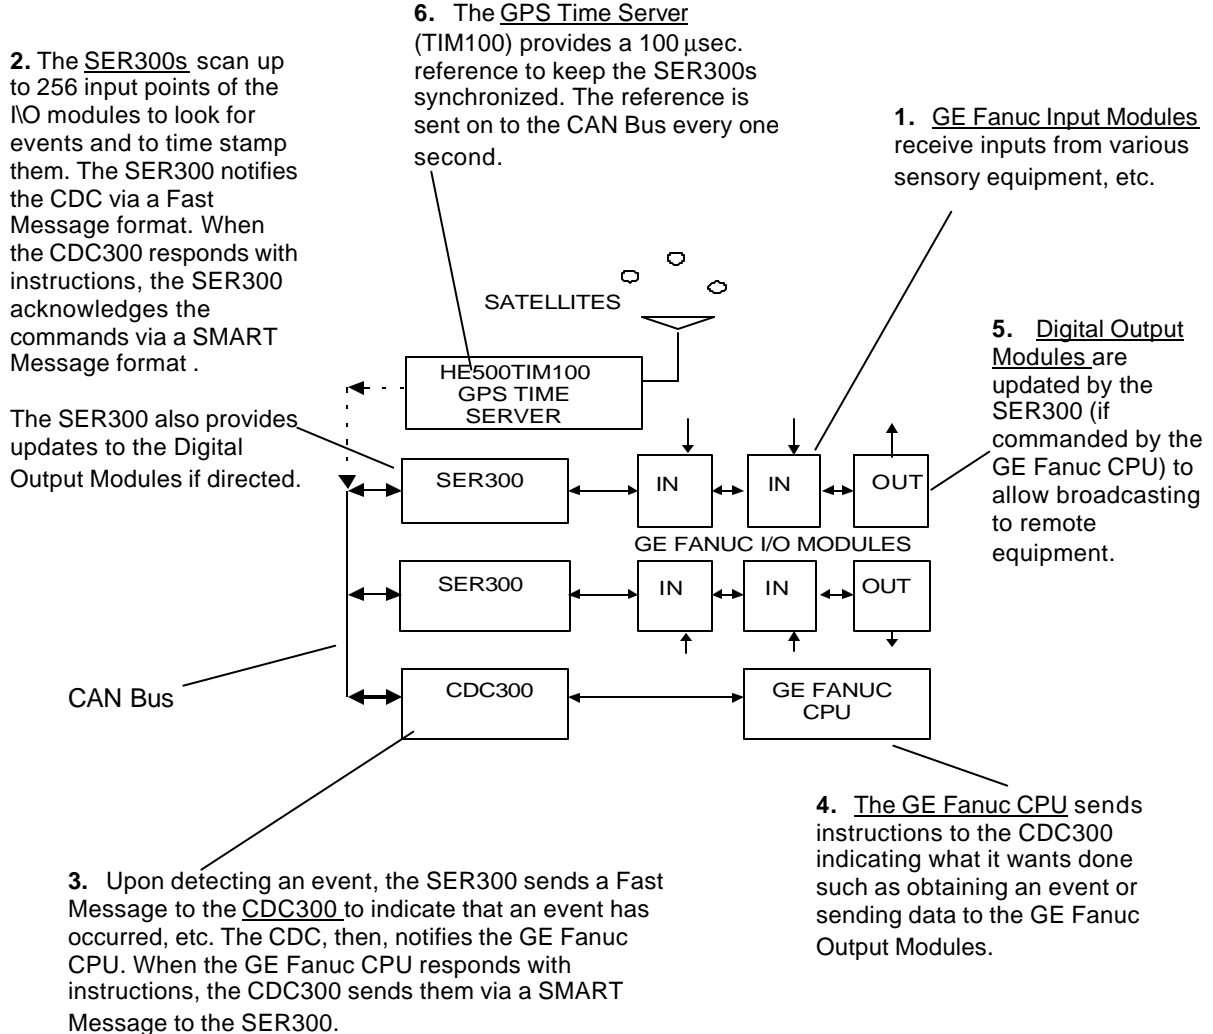

Figure 1.1 – Sequence of Events Recorder
1.2 Overview of the Sequence of Events (See Figure 1.1) 9
4.2 Recording Events and Updating Digital Output Modules (See Figure 1.1 for Overview) 17
1.2 Overview of the Sequence of Events (See Figure 1.1)